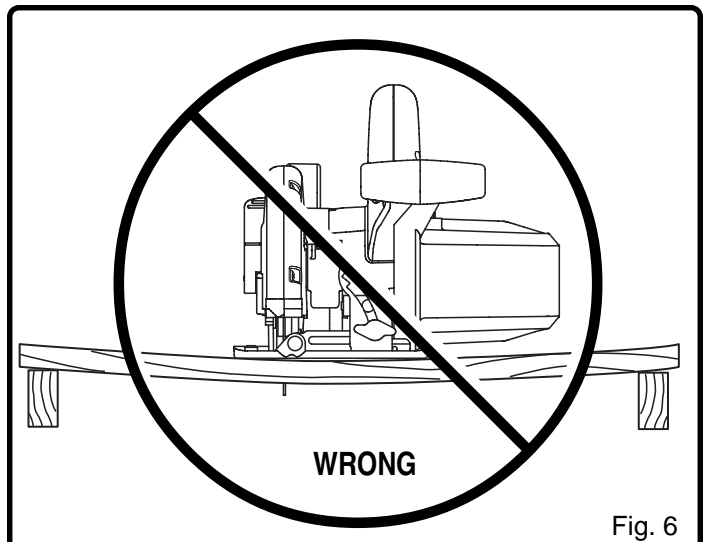

Fig. 6
- Incorrectly supporting work. See Figure 6.